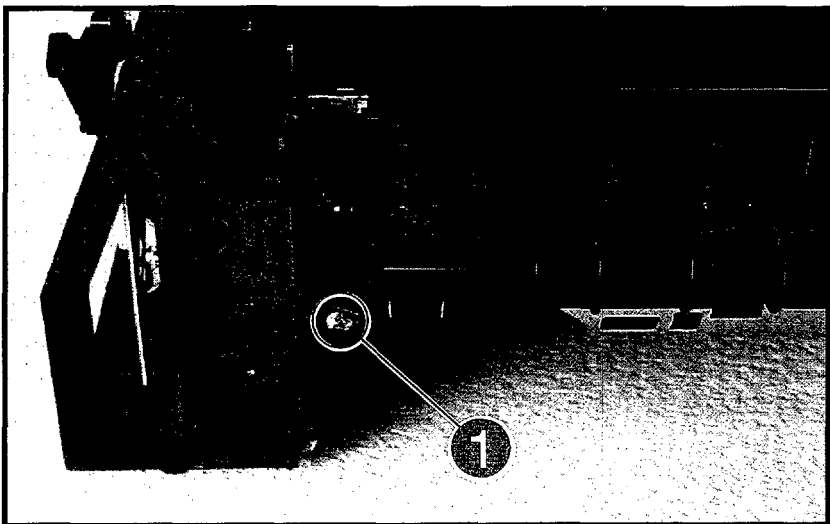

Figure 6-18 Removing the Oblique Roller Assembly
2. Remove the (1) self-tapping screw on the left of the Front Oblique Roller Assembly and tilt the assembly out at the bottom to remove (Figure 6-18, callout 1).